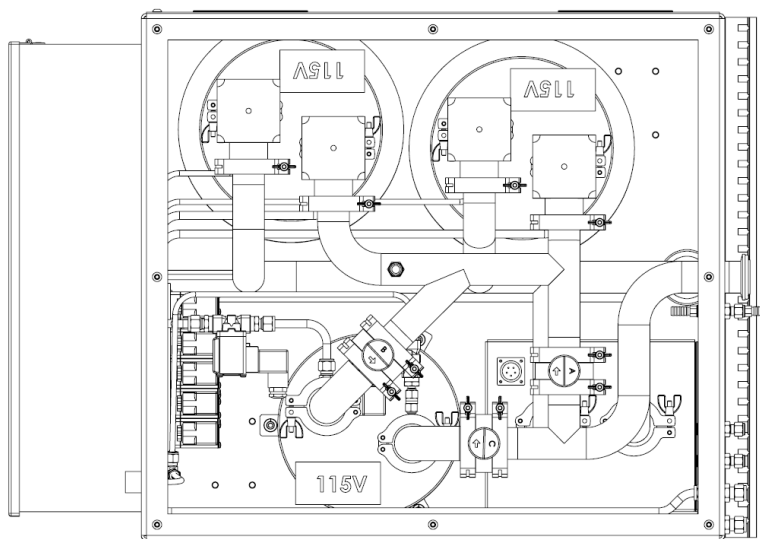

Figure 13 - Inside the Gas Purifier
- 2 Open the bypass valve (labeled A in **FIGURE 13** below). This is located in the Gas Purifier. The top must be removed to access the valve.